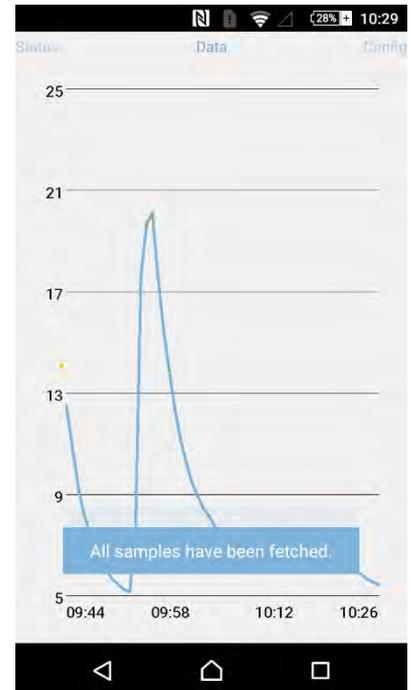

Figure 5: The graph shows both the history data and the newly retrieved temperature values
7. Swipe once to the right to the Data screen to see all logged values over time (figure 5).